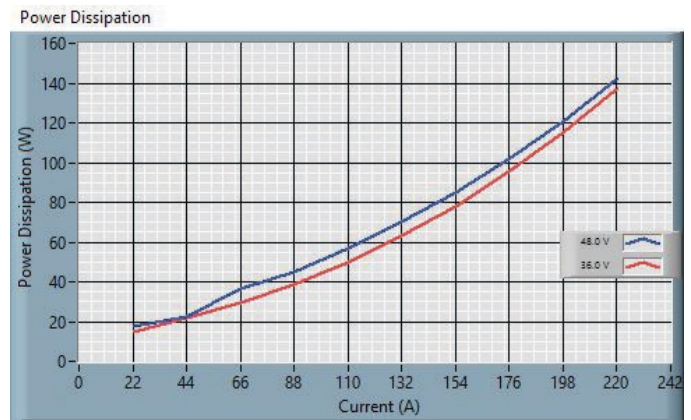

Fig. 2: 48S12.3K0BCA Power Dissipation – Buck Mode, $V_o=14V$.
Fig. 2: The bench setup used to operate 48S12.3K0BCA and take measurements provided in data sheet. The combination of the Electronic Load (E-Load) and Bench Power Supply (PS) emulates a battery capable of both sourcing and sinking current.